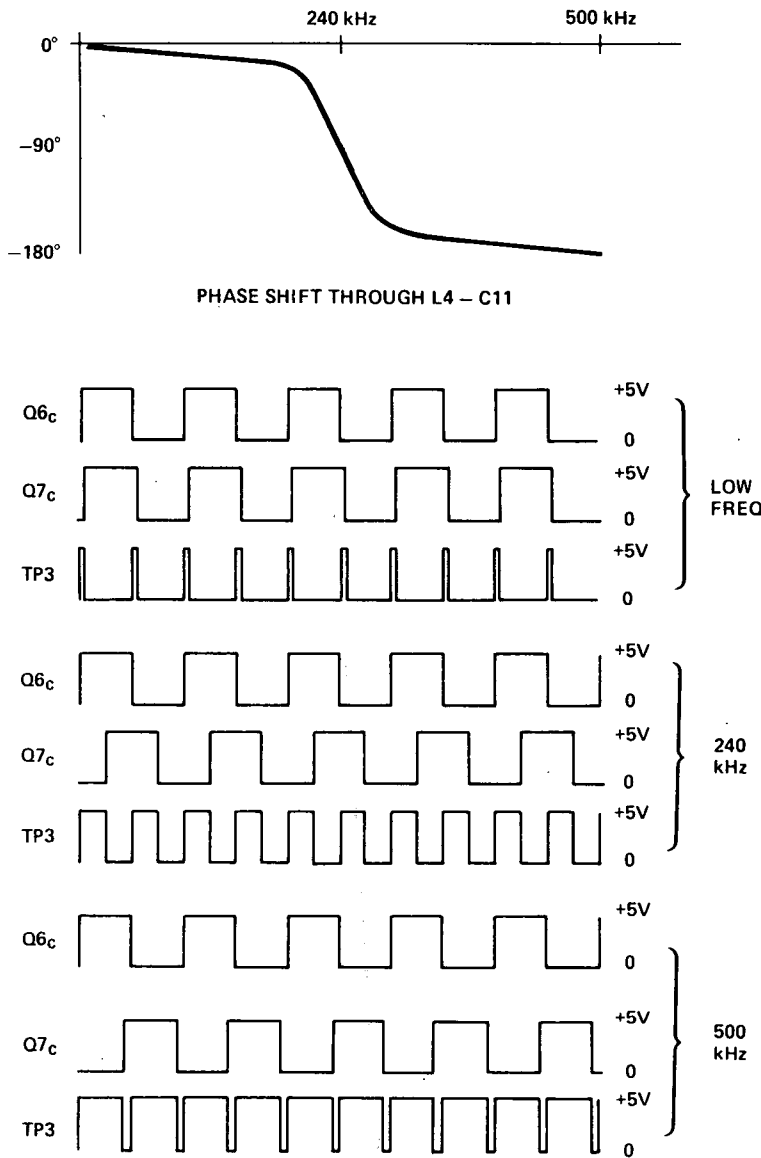

Figure 8-99. Discriminator Wave Shapes
EXCLUSIVE OR (K) . Quad NAND gate integrated circuit A1U2 is connected as an EXCLUSIVE OR circuit. Its output is high when the two inputs are different, and low when they are the same. The output of the EXCLUSIVE OR circuit at A1TP3 has a dc component with an average value that is a function of frequency (see Figure 8-99).
The signal at A1TP1 should be a sine wave, 0.15V to 0.3V peak-to-peak, for frequencies between 1 and 500 kHz. The voltage level should decrease rapidly as the frequency is increased above 500 kHz. Observe signals at collectors of A1Q6 and A1Q7 with a dual-channel oscilloscope. The signals should be 0 to +5V square waves. As the oscillator frequency is varied, the phase relationship of the square waves should vary as follows: at low frequency, the square waves should be almost in phase; at 240 kHz they should be approximately 90 degrees out of phase; at frequencies approaching 500 kHz they should be nearly 180 degrees out of phase. Also note how the average value of the EXCLUSIVE OR output at A1TP3 increases as the oscillator frequency is increased (see Figure 8-99).